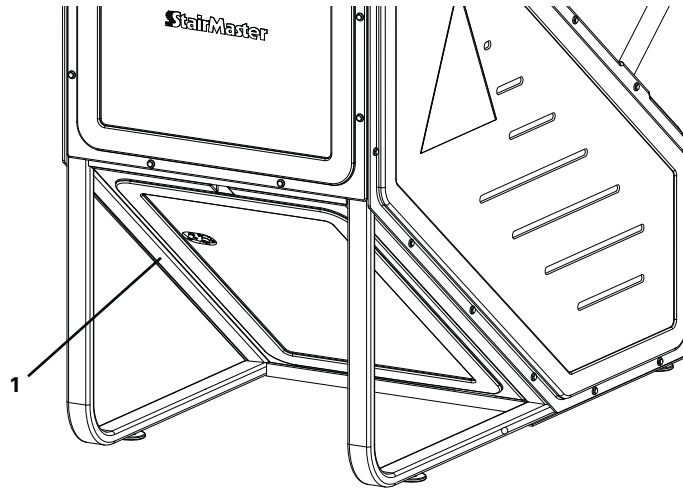

Figure 1
**Before using your product:** Find and read all warning labels before using your product. Replace any warning label if damaged, illegible, or missing. If you need replacement labels, please call a Nautilus® Representative at (800) 628-8458 (North America) or (41) (26) 460 77 77 (International office).
**Location:** Affixed to the lower front of the left side cover (see Figure 1).